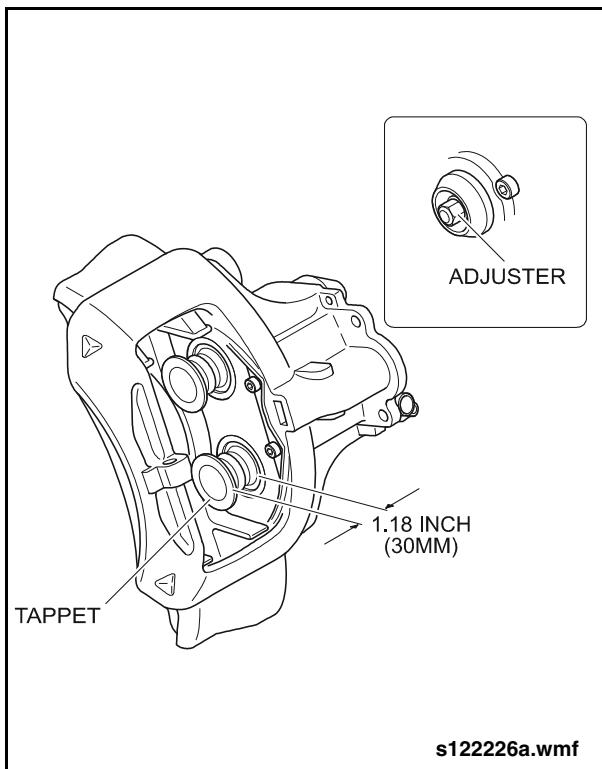

Fig. 1-67: Unscrewing Tappets
2. Rotate the adjuster clockwise until the tappets extend approximately 1.18" (30) from the caliper surface. This will allow full extension of the tappet rubber boot for insertion of the removal tools. See "Fig. 1-67: Unscrewing Tappets" on page 67.